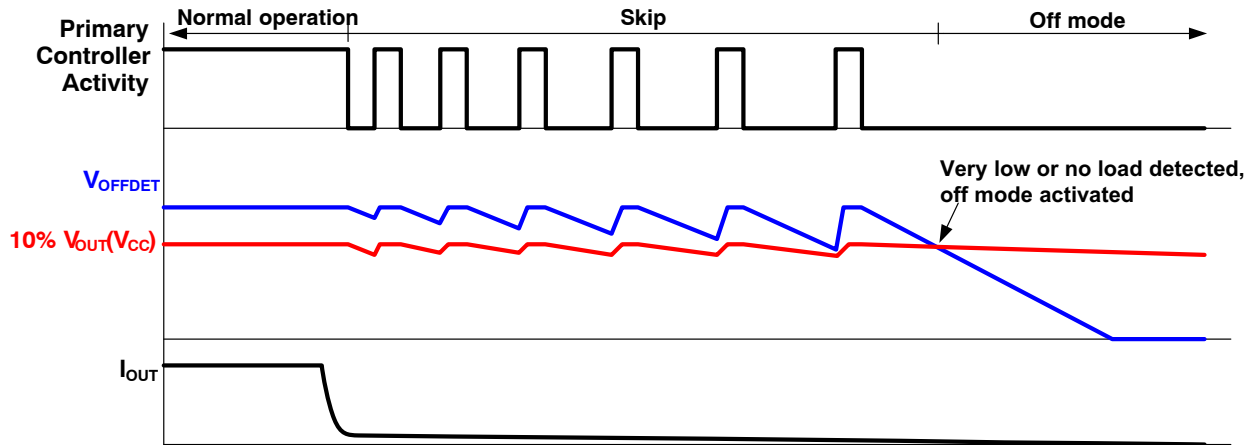

Figure 30. OFF Mode Detection
The OFF mode detection is based on comparison of output voltage and voltage loaded with fixed resistances (D2, C2, R8 and R9). Figure 30 shows detection waveforms. When output voltage is loaded with very low current, primary controller goes into skip mode (primary controller stops switching for some time). While output capacitor C1 is discharged very slowly (no load condition), the capacitor C2
While both C1 and C2 are discharged during the missing cycles, C2 discharge will be faster than C1 without output current,  $V_{OFFDET}$  drops below  $V_{OFFDETTH}$  and OFF mode is detected (7). This situation is shown in Figure 30 in detail. When OFF mode is detected, internal pull-up current  $I_{BIASV}$  is switch on (7), VSNS voltage increases (due to  $I_{BIASV}$ ) and voltage amplifier sinks full current to keep primary FB voltage below skip level until OFF mode is detected by the primary side controller (8). Current into ONOFF pin or DRIVE pin begins to flow at the same time, when entering into OFF mode (7). When OFF mode is detected by primary side controller (8a), primary FB injected current decreases to a lower level to reduce overall power consumption. Optocoupler current, can also be reduced from that time to keep the level below restart level. Secondary side controller decreases optocoupler current (voltage transconductance amplifier stops to sink current) when VSNS voltage drops below  $V_{REF}$  (9) and  $I_{BIASV}$  is also switch off when  $V_{SNS}$  is lower than 90% of  $V_{REF}$  to reduce overall consumption. This point is defined by  $I_{BIASV}$  current, R6, R4 and R5 resistors and discharging time of output capacitor C1. Discharging of C1 continues (10) until output voltage drops below level set by voltage divider at  $V_{MIN}$  pin (except NCP4353A where minimum  $V_{OUT}$  is defined only by VCC UVLO) (11). ONOFF current stops and thanks to internal pull-up, the primary FB voltage rises above restart level (12) and primary controller starts switching (13). Output capacitor C1 is recharged (14) to set voltage. If there is still light load condition primary controller goes to skip mode (15) again and after some time secondary controller detects OFF mode by very light or no load condition (16) and whole cycle is repeated.